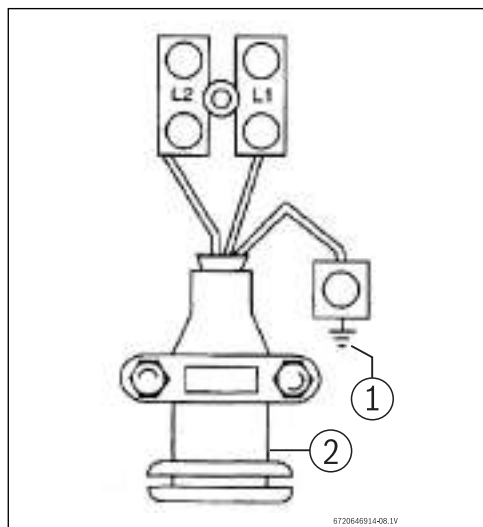

Fig. 3 Cable termination
- Connect the cables to the terminal block and ground stud (Fig. 3):